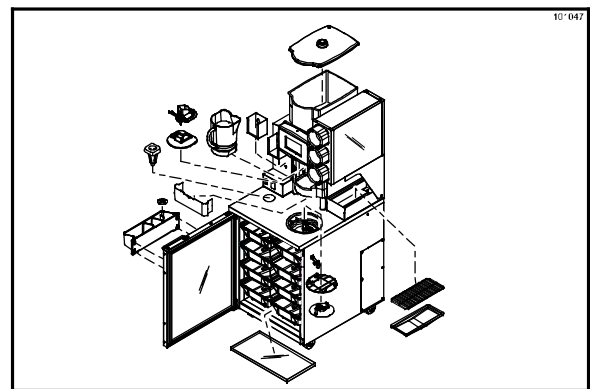

Figure 16
- Reinstall the ice hopper, ice hopper cover, blender pitchers, ice chute, splash guard, rinse station assembly (grate, actuator, and strainer), pitcher drying station (pitcher stand grate and drip pan), lid holders, syrup rail, skirt, and mix cabinet drip pan. Remove the whipped cream holder cover and install the whipped cream holder. (See Figure 16.)